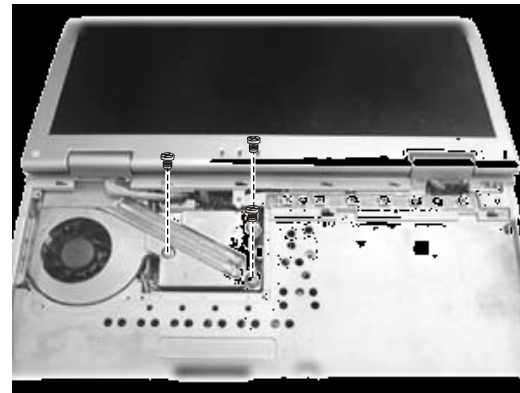

Figure 2-7 Remove the heatsink
3. Remove three screws locking the heatsink. (Figure 2-7)